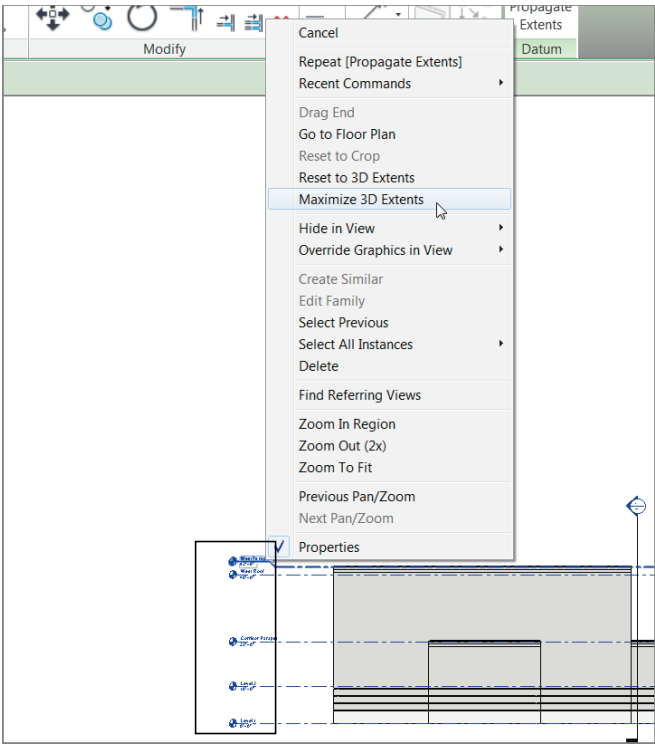

FIGURE 3.40: By choosing Maximize 3D Extents, you can control the visibility of the levels in other views.
7. Select a window around the west levels, as shown in Figure 3.40.
9. Select Maximize 3D Extents, as shown in Figure 3.40.